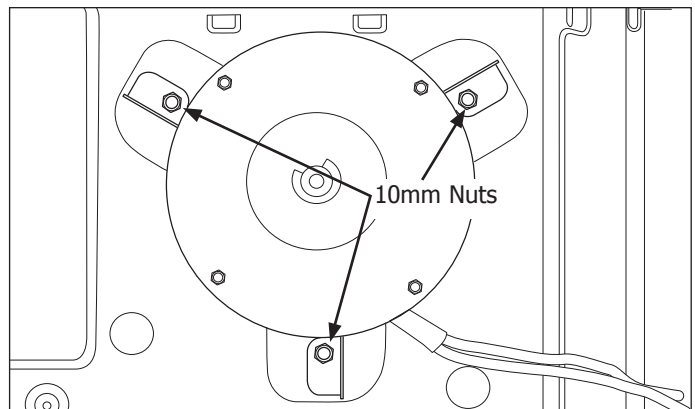

Figure 4-27.
5. Use a 10mm socket or wrench and remove the three nuts securing the condenser fan motor to the right partition bulkhead. Lift condenser off mounting studs. (See Figure 4-27)